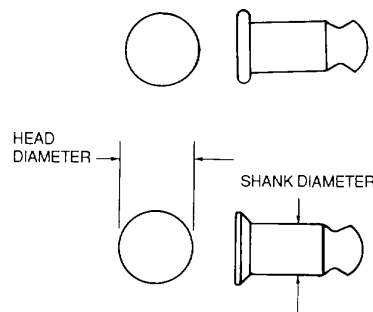

Figure 2-54. Hi-Shear Rivets
- (3) *Solid shank rivets*. Cadmium- or zinc-plated steel standard bolts, or NAS structural screws, may be used to replace standard solid shank rivets only when the proper rivets or riveting equipment are not available in such cases, steel bolts or screws of the same size as the replaced rivets are adequate for replacing any type rivet. Observe the following precautions:
h. Hi-Shear Rivets. Hi-shear (pin) rivets, as shown in figure 2-54, are essentially threadless bolts which are inserted like rivets. Each rivet consists of two parts: a stud and a collar. The stud is made of 4130 alloy steel, or equivalent, heat-treated to 125,000 to 150,000 psi, and cadmium-plated. The collar is anodized 2117-T4 aluminum alloy. The installed rivet can be readily identified by the presence of the attached collar rather than the ordinary formed head of the standard rivets. Use Hi-shear rivets in shear applications only. As the shear strength of the steel is considerably greater than either the shear bearing strength of aluminum alloys, these special rivets are used to advantage only in the thicker sheet gauges. Never use Hi-shear rivets where the grip length is less than the shank diameter (3/16-inch for smallest available rivet). Use the 100-degree countersunk type where flush surfaces are desired. Hi-shear rivets may be replaced with close tolerance bolts of the same material, strength and diameter, where absolutely necessary. Use flush-headed bolts for flush-headed rivets and protruding head bolts for protruding head rivets. The bolt thread must not extend into the material.